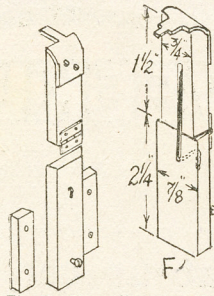

Fig. 3—Traveller details
The compressor, also cut from $\frac{1}{2}$ in. fretwood, should have the lower edges of its arms bevelled, as shown on the pattern; it can then be dropped on the bolt. The traveller, Fig. 3, can now receive attention. A front view of this part, shows it consists of two pieces of the $\frac{1}{2}$ in. wood, joined together with a small brass hinge. A rear view (F) gives the width and length of each part. The lower part has its side edges slightly bevelled, and is fitted to slide up and down between side strips, also bevelled to suit. The side strips should not exceed $\frac{1}{2}$ in. in width.